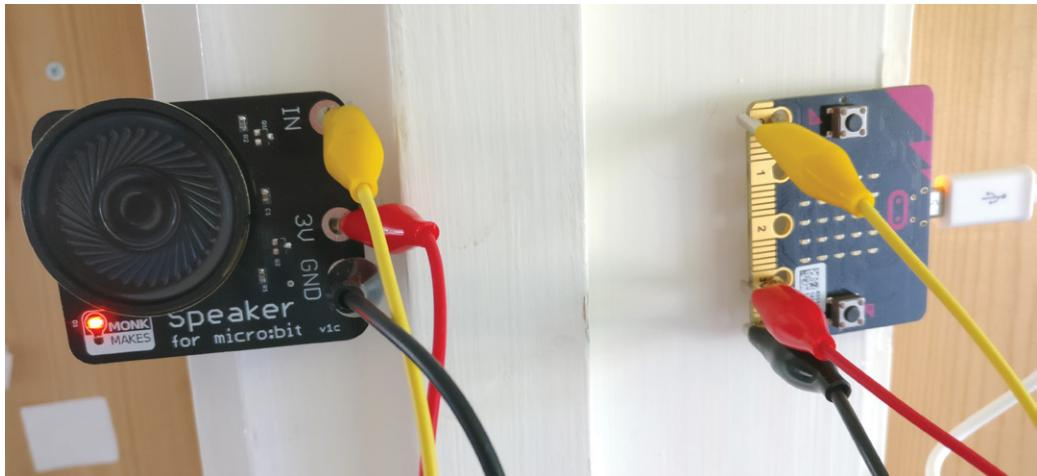

Figure 2-7: The musical doorbell project
This project (shown in Figure 2-7) is a variation on Experiment 1, except that instead of playing a single tone when a button is pressed, the doorbell will play tunes. We'll have button A play one tune and button B play another. You can see a short video of the project in action here: <https://youtu.be/xmLupw4PxYQ/>.
1. Connect the speaker to the micro:bit using the three alligator cables, as shown in Figure 2-7.